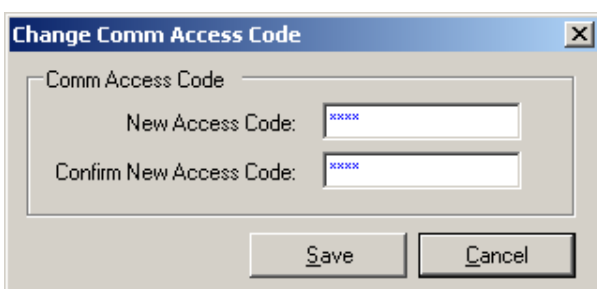

Figure 2-21 Change Comm Access Code Dialog Screen
1. From the IPScom[®] Main Screen menu select **Tools/Security/Change Comm Access Code**. IPScom will display the Change Comm Access Code dialog screen (Figure 2-21).